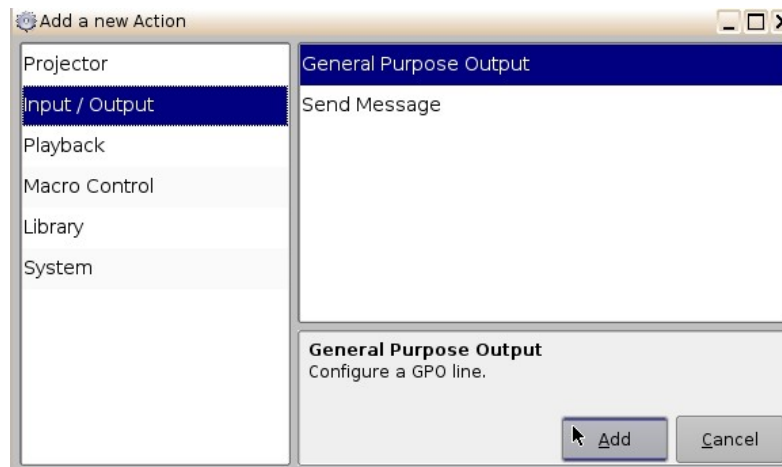

Figure 182: Add a New Action Window – GPO
- To add a GPO action, click the General Purpose Output button which is located in the Input/Output section in the Add a New Action window (Figure 182).